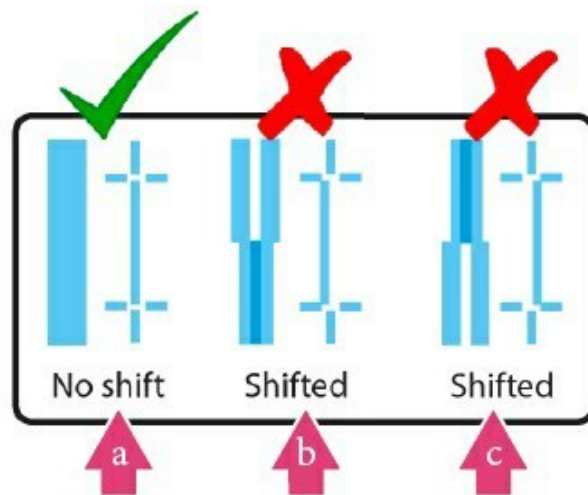

Figure 81
68. If you see shifting in the lines a Rough Adjustment will be needed. Here is an example of a pattern with **No Shift (a)** and **Shifted pattern (b),(c)**. If there is no shifting in your patterns, you may proceed to step 90. See Figure 81.